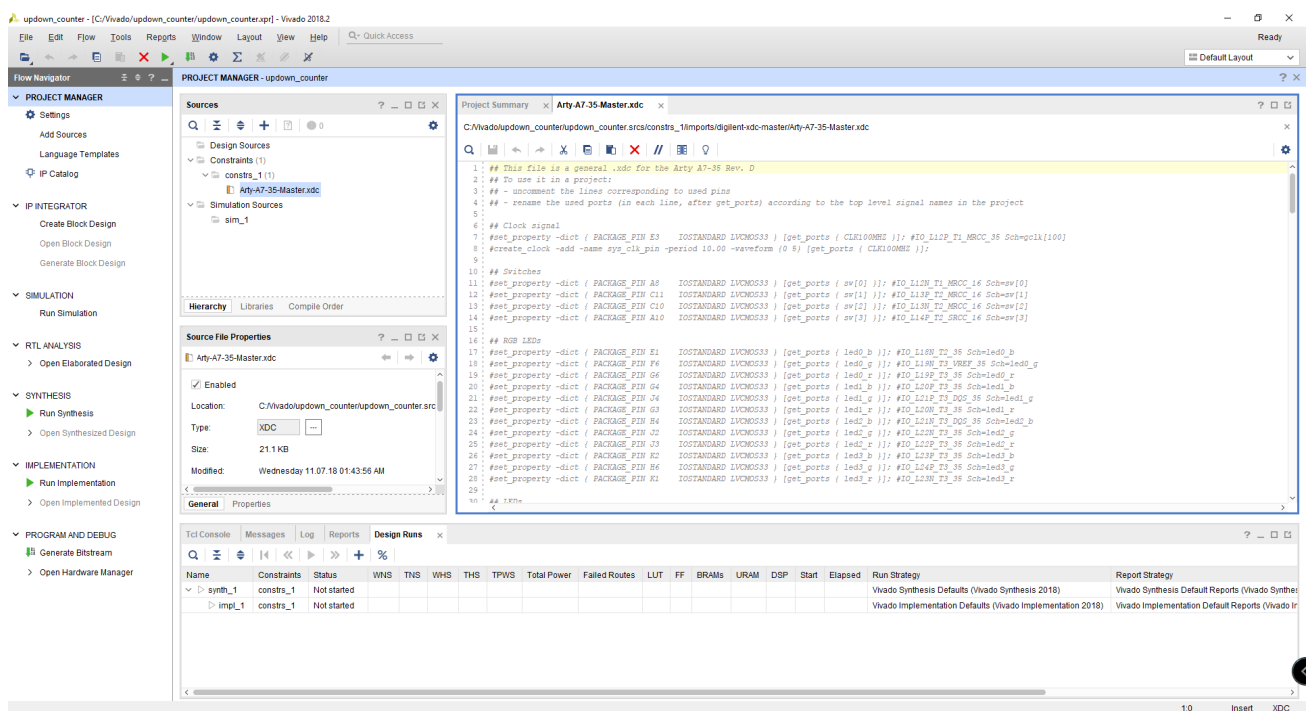

Figure 11: XDC file added
5. After adding the constraint file, you will be prompted back to the "Project Manager" window. Notice that the added constraint file is listed under "Constraints - constr\_1" in the "Project Manager" window (see Fig. 11).